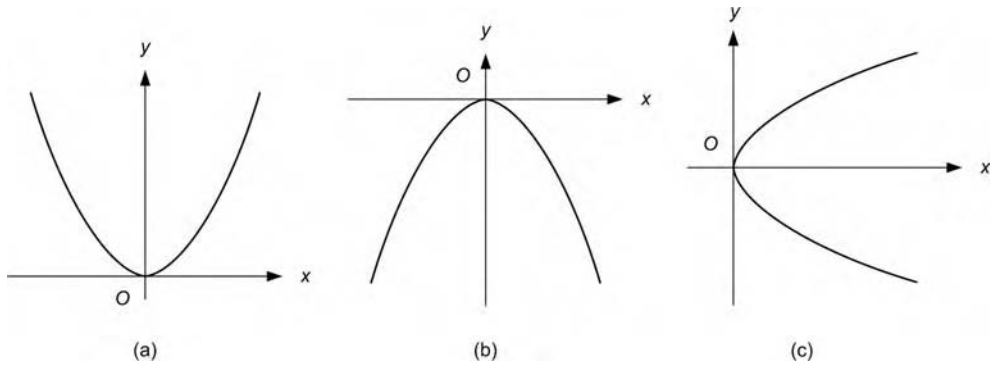

Figure 2.51
74. Which one of the graphs shown in Figure 2.51 represents the relationship that $y \propto -x^2$? [B1, B2]